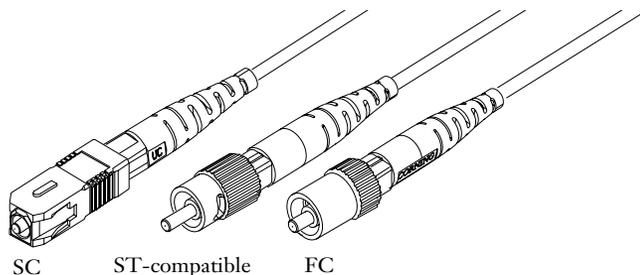

Figure 5-1
**5.1-1** This chapter describes how to assemble Corning Cable Systems UniCam SC, ST-compatible, and FC single-fiber connectors (Figure 5-1). This document describes assembly of both multimode and single-mode connectors.